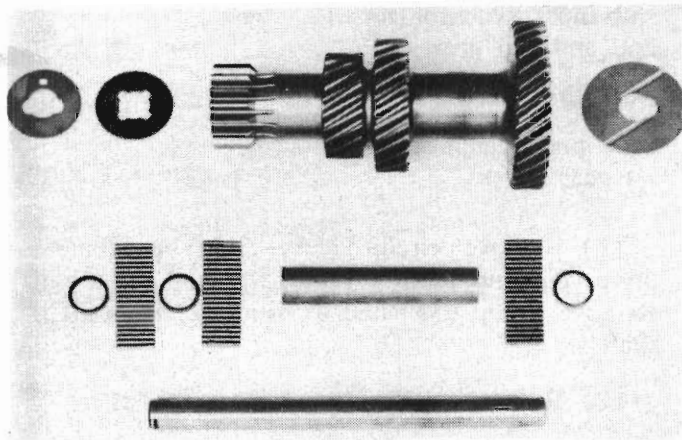

Fig. 18 - Cluster gear sub-assembly
(1) Remove dummy countershaft and needle roller thrust washers from cluster gear. (Refer Fig. 18).
(2) Remove needle rollers and spacer from bore of cluster.
(1) Assemble the cluster gear (41), dummy countershaft and bearings as follows: (Refer Fig. 18).